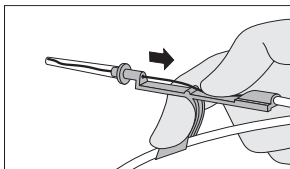

Figure 5
- Using thumb, retract "J" (refer to Figure 5).